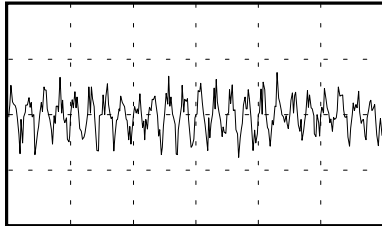
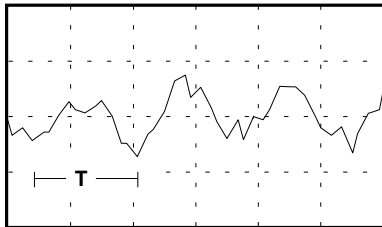

Fig. 2: Random voltage with **Rate = 0**
Fig. 3: Random voltage with **Rate = 10**
③ Rate
Use control ③ to adjust the **cycle time T** of the random voltage at output ③. T is a theoretical figure, because of the random voltages the module produces. In practice, a setting of 0 on the knob means fast changes in voltage, producing a spectrum similar to pink noise (see Fig. 2); and 10 means slow changes (see Fig. 3).